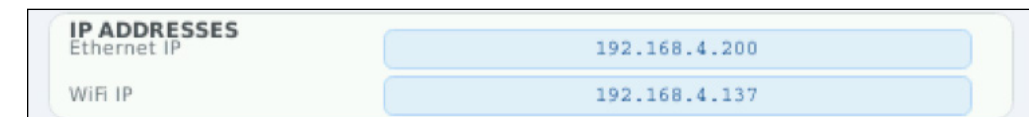

Figure 51
5. Locate the shaker's IP address ("Wired" or "Wireless" depending on your setup) on the Network Settings screen (*Figure 51*).